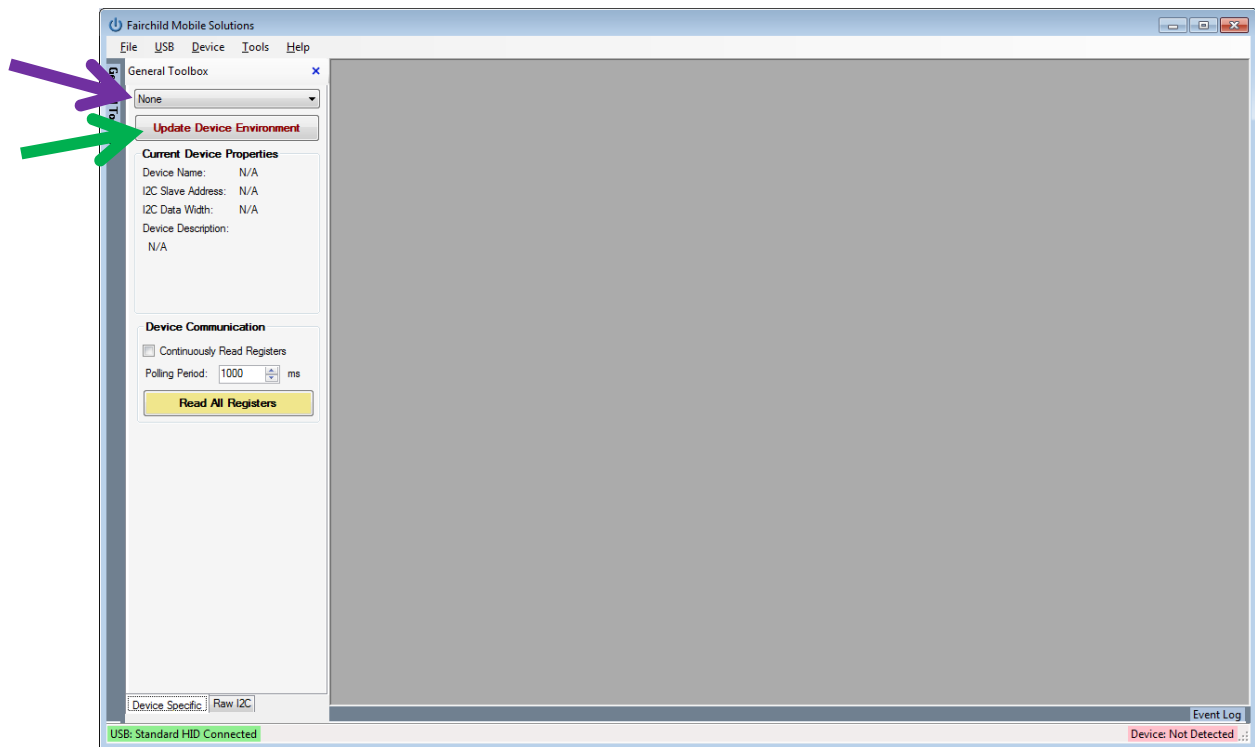
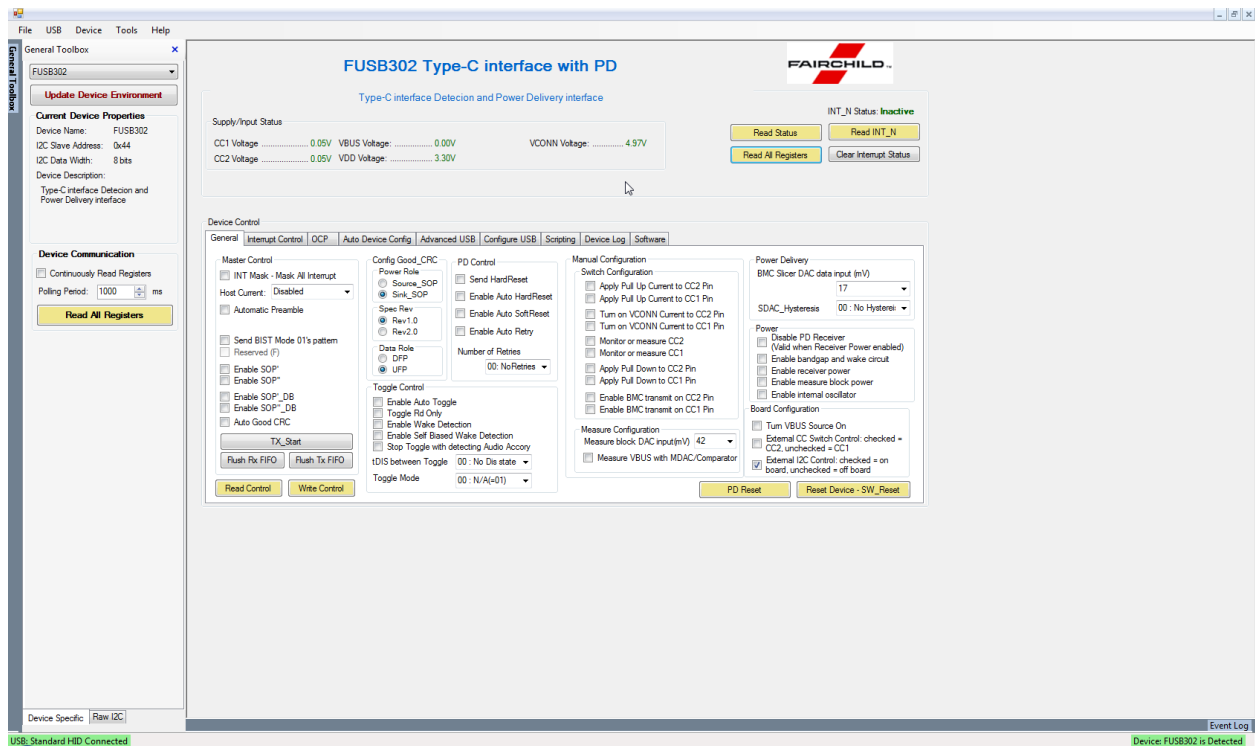

Figure 4
Figure 5
5. The base operation GUI will appear as shown in Figure 4 below.
6. Click the drop down box that says “None”, as marked by the purple arrow in Figure 4. Select “FUSB302”.
7. Click the “Update Device Environment” button, as marked by the green arrow in Figure 4. The device control for the FUSB302 will now load and look like Figure 5. The lower right part of the screen will now indicate “Device: FUSB302 Detected” with a green background. If this is not shown, there is a likely a power configuration issue with the FUSB302 device.